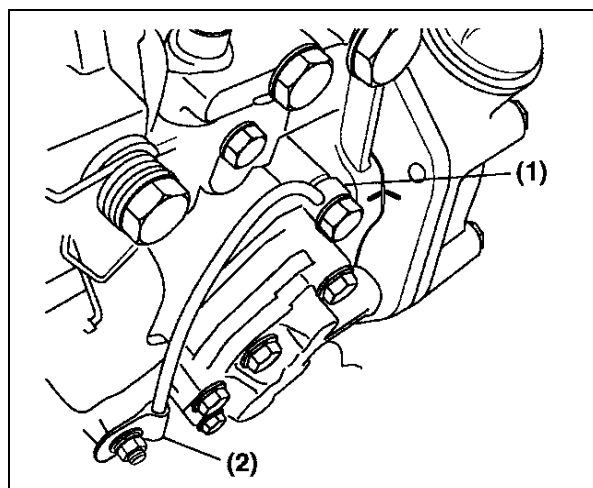

Figure 4
- (14) Disconnect the lube oil line (Figure 4, (1)) and the clamp (Figure 4, (2)) from the pump.